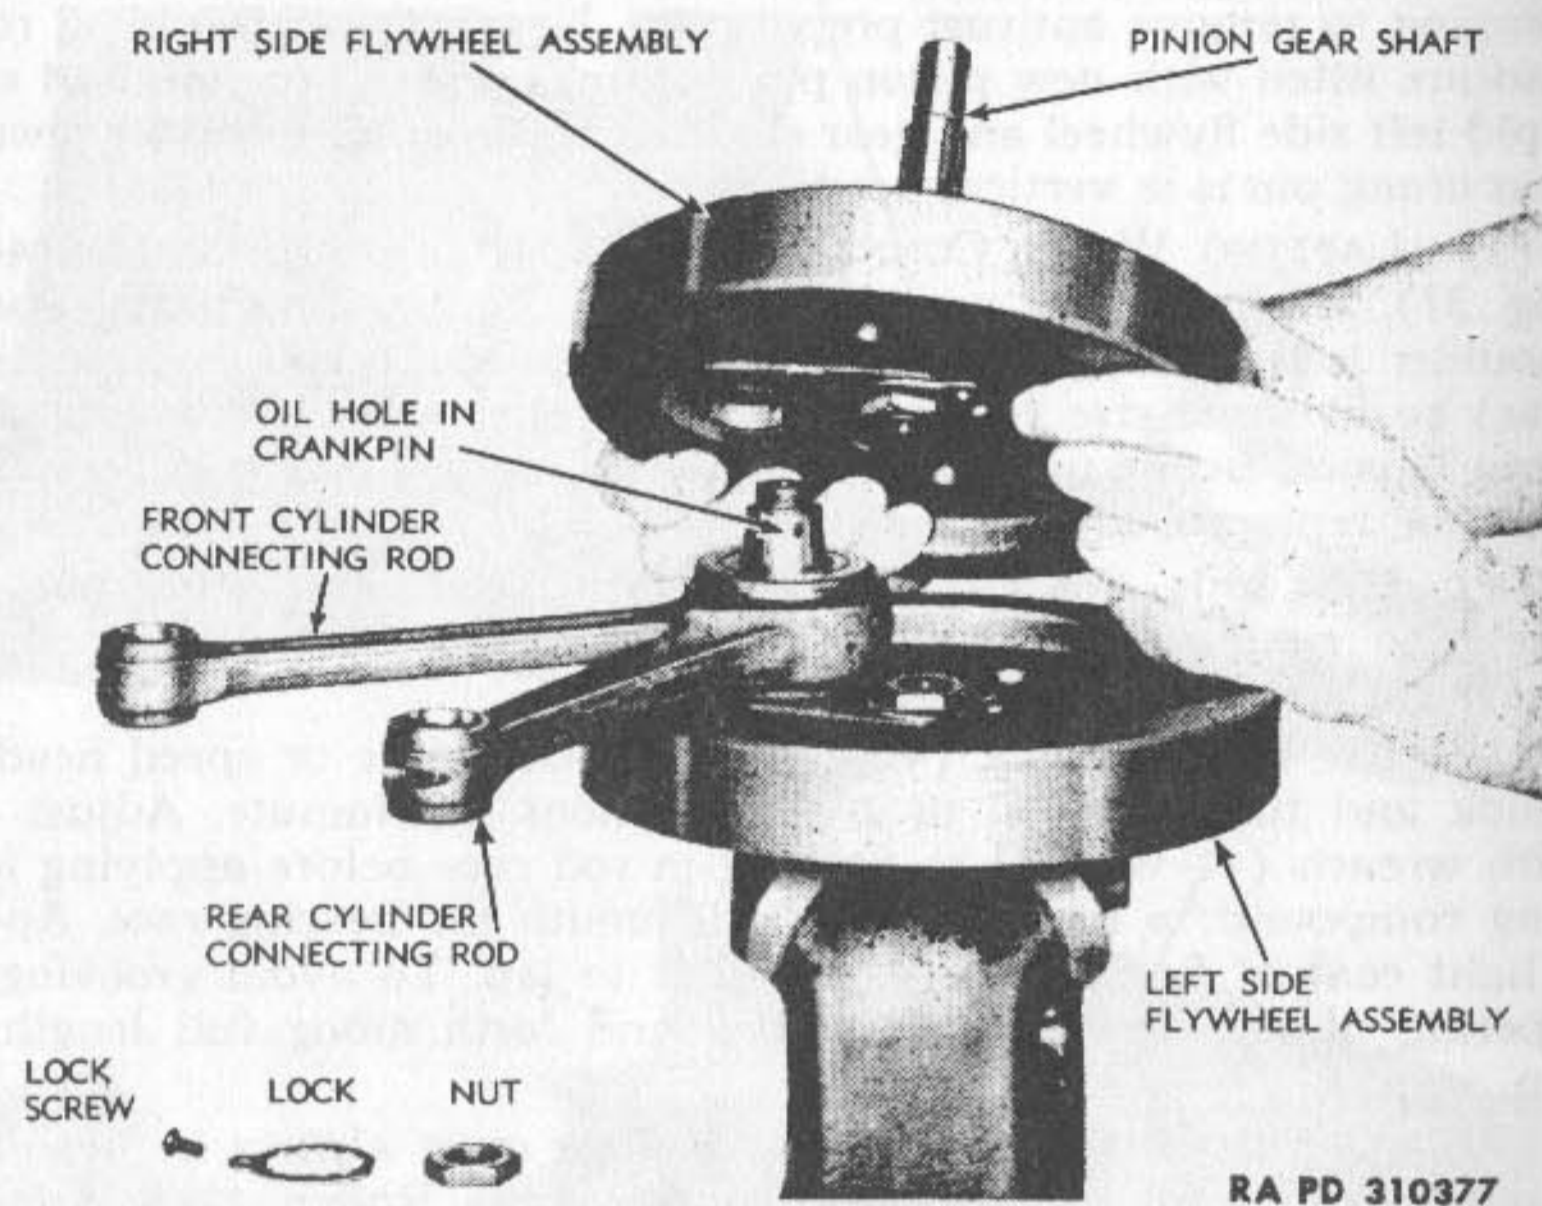

Figure 38—Assembling Flywheels
a. The flywheel assembly is a built-up crankshaft and must be as true as possible (as if in one piece) after alinement. When assembling flywheels, make sure that connecting rods are installed on crank pin bearing so that female (forked end) rod will fit into rear cylinder, and male (single end) rod will fit into front cylinder (fig. 38). This rod arrangement provides better crank pin bearing lubrication. Do not assemble flywheels until crankcase main bearings have been repaired (par. 25).